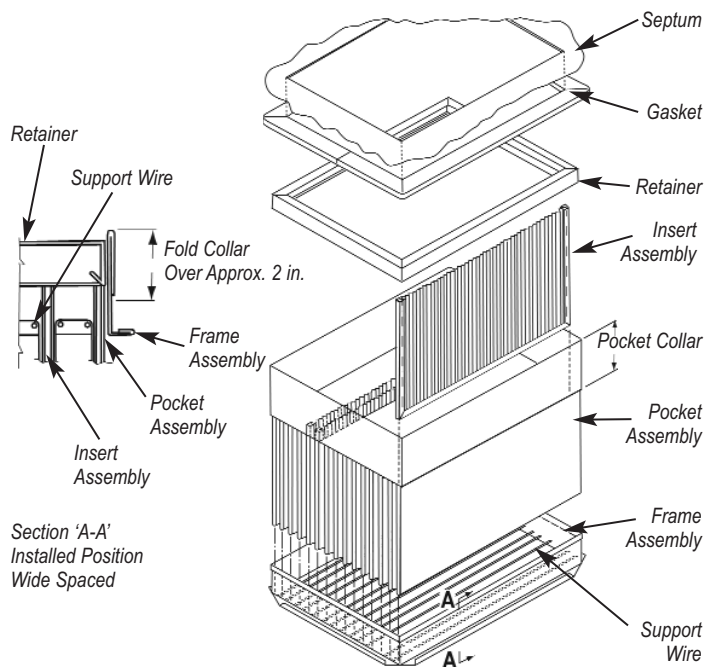

Figure 9. Cartridge Installation
### 6.3 Filter Cartridge Change-Out (Figure 9)
8. Assemble the new cartridge as shown in Figure 9 using the existing frame and pocket inserts.